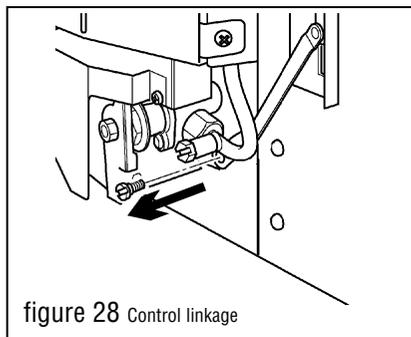

figure 28 Control linkage
- 10.4.3** Disconnect the control linkage by removing the knurled screw which connects the control linking bar to the control pivot unit (see figure 28).